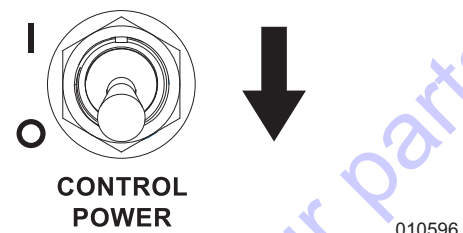

Figure 3-32. Controller Power—OFF (O)
4. See Figure 3-32. Switch controller power switch to OFF (O).